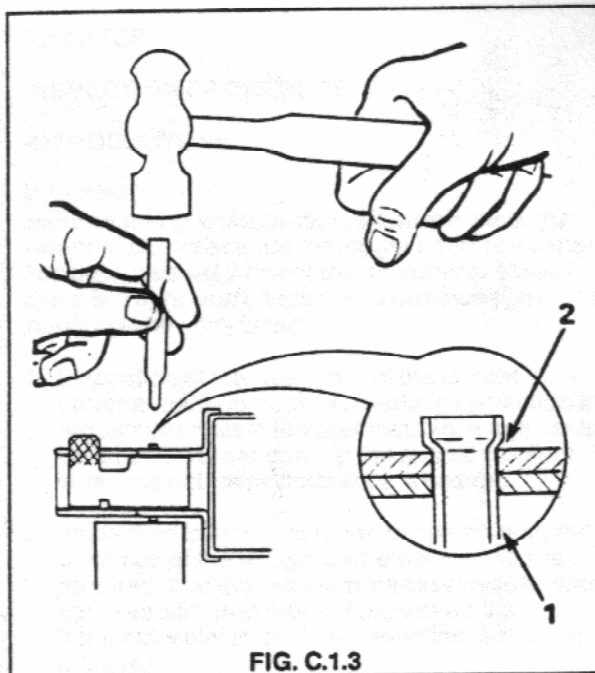

FIG. C.1.3
4. When replacing new axis pin, form both ends as shown, using a suitable punch and hammer. See Fig. C.1.3.